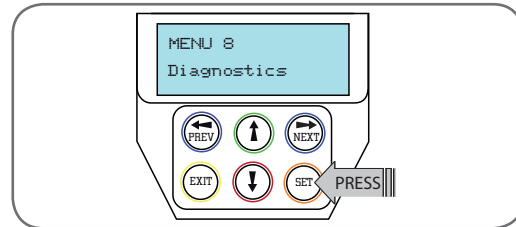

fig 58
1. Press PREV to navigate to Menu 8 (Fig. 58).